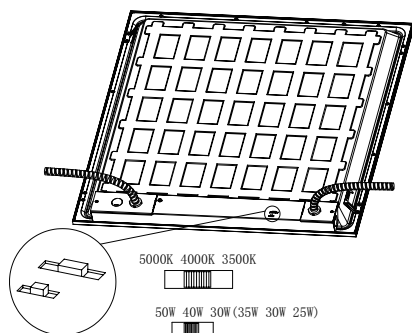

Figure 5
8. Adjust toggle switch to desired color temperature and wattage at the back side of the panel. (Fig. 5)